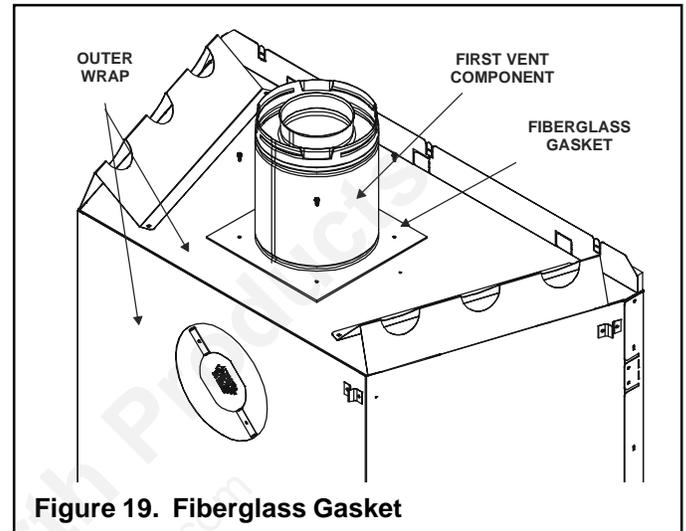

Figure 19. Fiberglass Gasket
- Apply a 3/8 inch (9.5mm) bead of stove cement around the 5 inch (127mm) fireplace starting collar (see Figure 19).
- Make sure that the fiberglass gasket supplied in the manual bag seals between the first 8-5/8 inch (219mm) vent component and the outer fireplace wrap. Using 2 self-tapping screws from the manual bag secure that gasket to the outer wrap (see Figure 19).